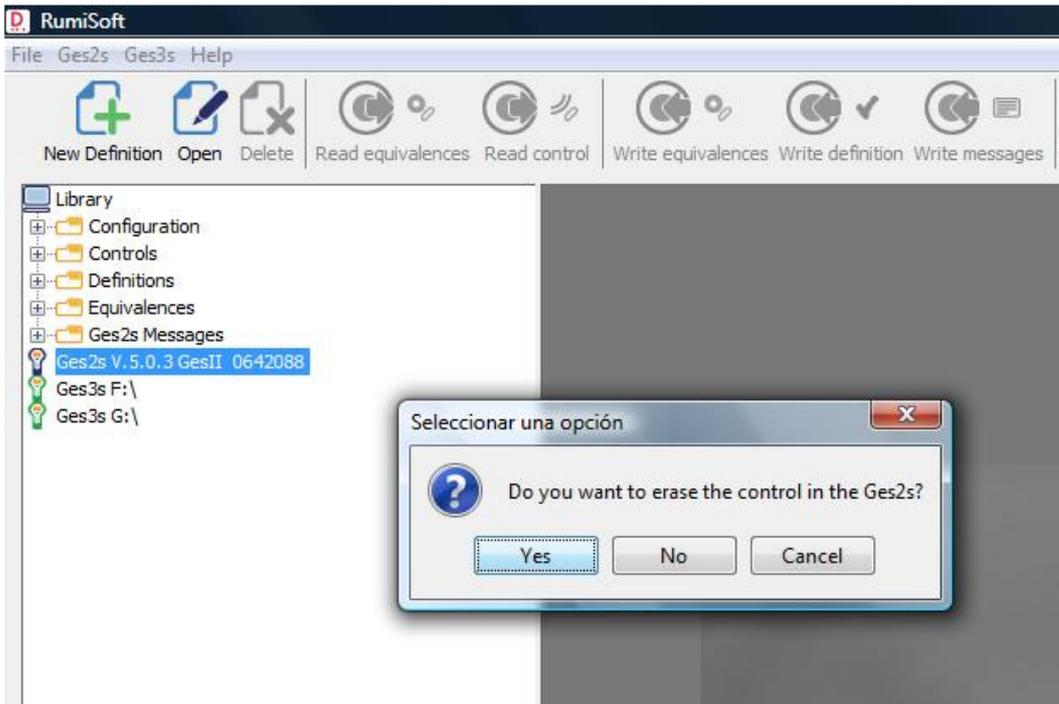

Figure 10
*Read Reading Session:* when GES2S is selected in the tree, it downloads via *Serial Com Port* the positions of the control from the GES2S and saves them in a text control file in the library folder. Software shows a file selector to select the file name and asks the user to delete control in the reader (Figure 10).